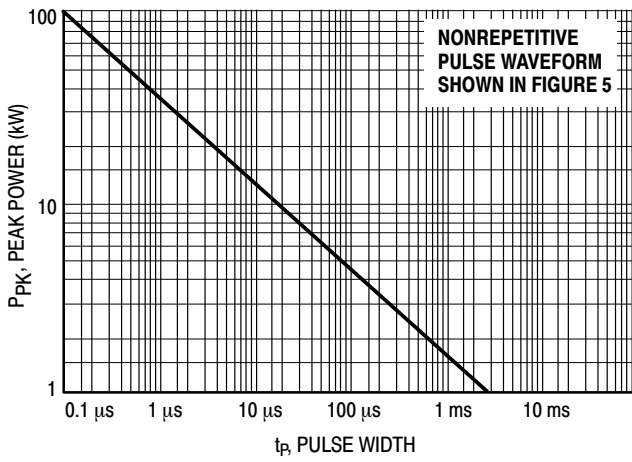

Figure 1. Pulse Rating Curve
- Surge current waveform per Figure 5 and derate per Figures 1 and 2.
The data of Figure 1 applies for non-repetitive conditions and at a lead temperature of 25°C. If the duty cycle increases, the peak power must be reduced as indicated by the curves of Figure 7. Average power must be derated as the lead or ambient temperature rises above 25°C. The average power derating curve normally given on data sheets may be normalized and used for this purpose.
At first glance the derating curves of Figure 7 appear to be in error as the 10 ms pulse has a higher derating factor than the 10  $\mu$ s pulse. However, when the derating factor for a given pulse of Figure 7 is multiplied by the peak power value of Figure 1 for the same pulse, the results follow the expected trend.